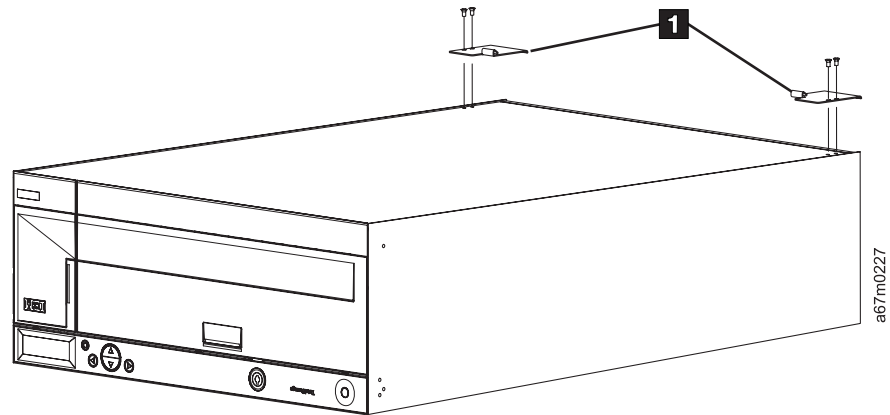

Figure 36. Installing the library stop plates
- 11. To prevent your library from sliding out the front of your rack, install two stop plates on the rear underside of your library (see Figure 36 on page 57). Position your Right Library Stop (part number 18P7708) and your Left Library Stop (part number 1807709) so that each plate fits snugly into the rear groove of the library's underside and the stop plates' tongues point toward the front of the library. Align each stop plate with the two threaded holes in the library's underside. Screw two M3 x 6 flat head Phillips screws into each stop plate. Tighten the screws to secure the plates. See **1** in Figure 36 on page 57 for the locations to install the stop plates.